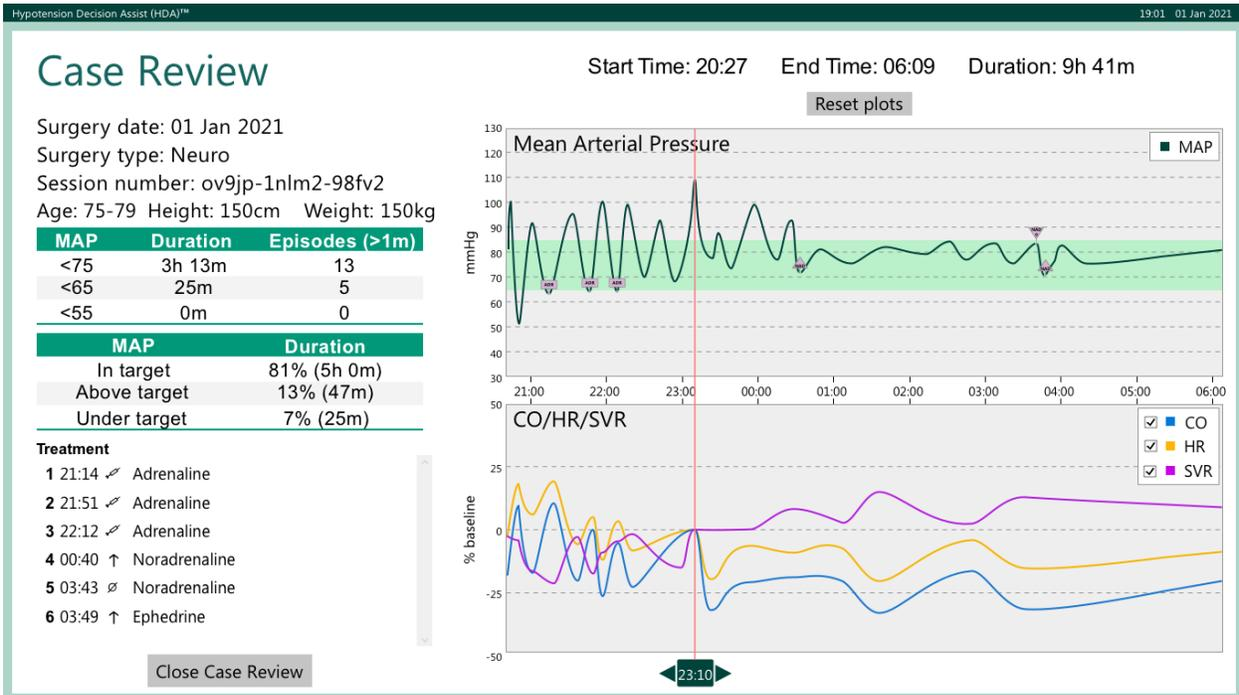

Figure 33: Hypotension Case Review (HCR)
Upon stopping a patient monitoring session, you will be presented with the Case Review (CR). See Figure 33.
At the bottom of the trend data there is a green cursor attached to a red line. The position of this line determines the time at which the CO, HR, and SVR signals are baselined. These signals are shown as percentage changes and the baseline is the value from which the percentage change in the signal is calculated. The baseline time is displayed in the green cursor (in Figure 33 this time is 23:10). You can drag this cursor to set the baseline to any time in the case, for example, the time a treatment was administered.